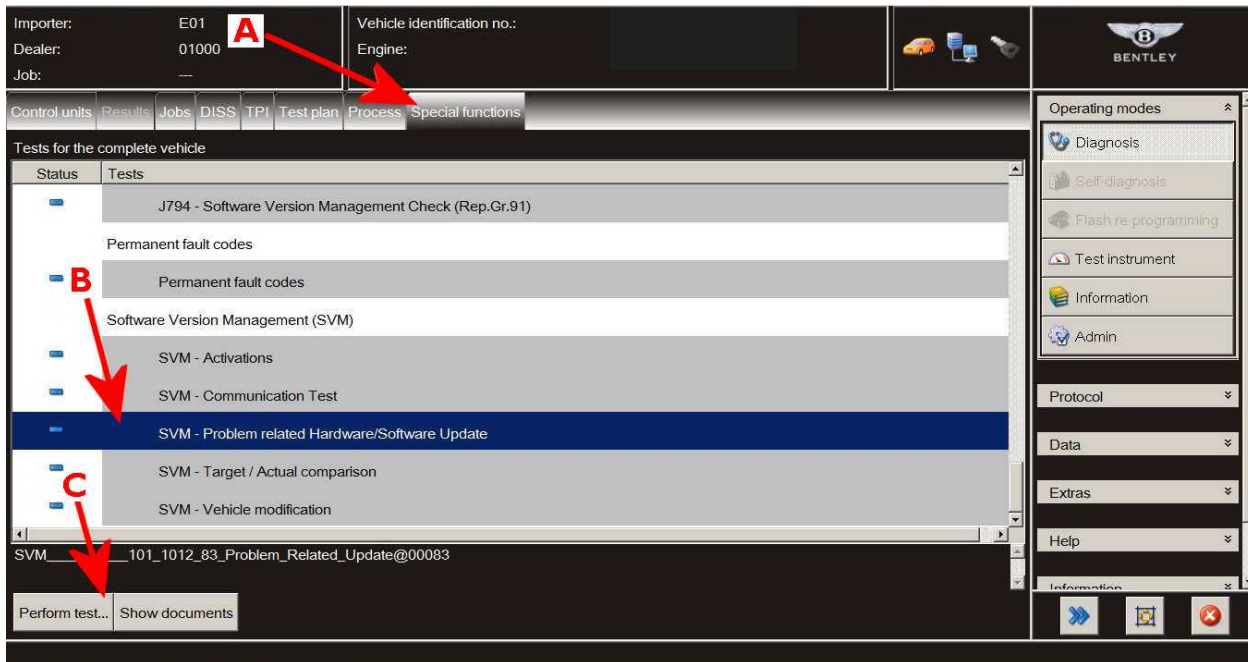

Figure 4
7. - Once the control module sweep within Guided Fault Finding is complete, Select – Special functions as shown in Figure 4 (point A)